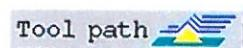

Figure 13 Image of the Tool Path Icon
- vi. Click the **Tool Path** icon to create a path for the machine (Figure 13).